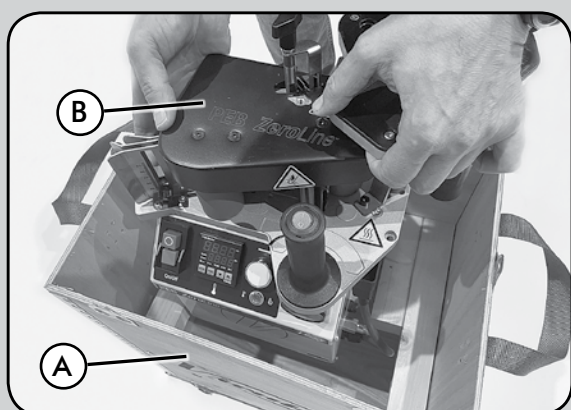

Fig. 2
- Remove the machine B (Fig. 2) from inside box A (Fig. 2).